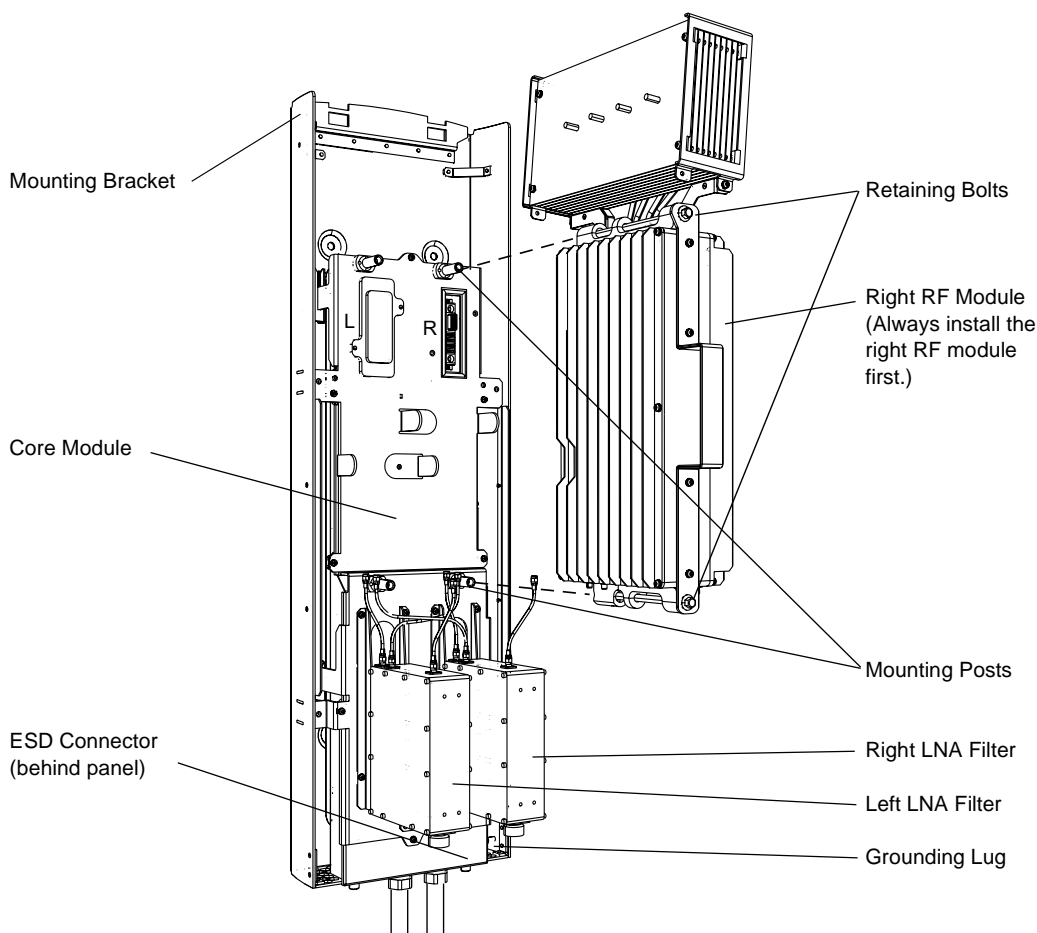

Figure 3–2 Installing the RF Modules
If the RF modules are not installed you will need to install them. Figure 3–2 shows the first RF module being installed. The second RF module is installed in the same manner as the first. For ease of cabling and consistency, install the right RF module first.
The remote unit core module comes with “pigtailed” connected to the power connectors. The pigtailed must be pulled through the power conduit to the electrical junction box where they will be connected to the power cable from the UPS or electrical breaker. For the correct power designations see, Figure 3–4 on page 3-7.
1. Connect the RF jumper from the Tx/Rx antenna to the LNA filters (see Figure 3–4 on page 3-7).